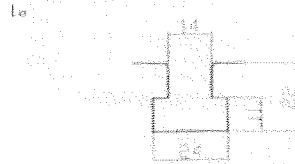

Fig.6
(5)、The T slot measurement of worktable。(see fig.6)